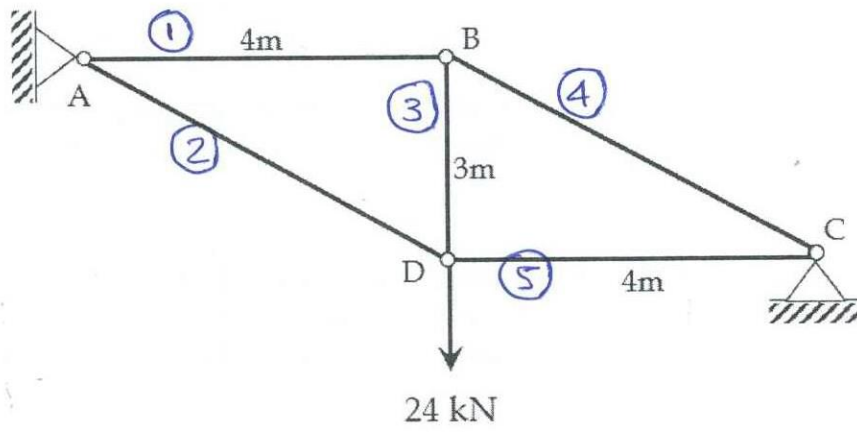

Fig. Q1
- Q1. A steel truss structure used to support a crane system in a factory building is shown in Fig. Q1. For a safety concern, the structural engineer wants to determine the reaction forces at the supports and the member forces in all the elements while the maximum load of 24 kN is raised by the crane fixed to the node 'D'. The cross-sectional area, A , for all the elements is 1000 mm^2 and the elastic modulus, E , for steel is 200 GPa .